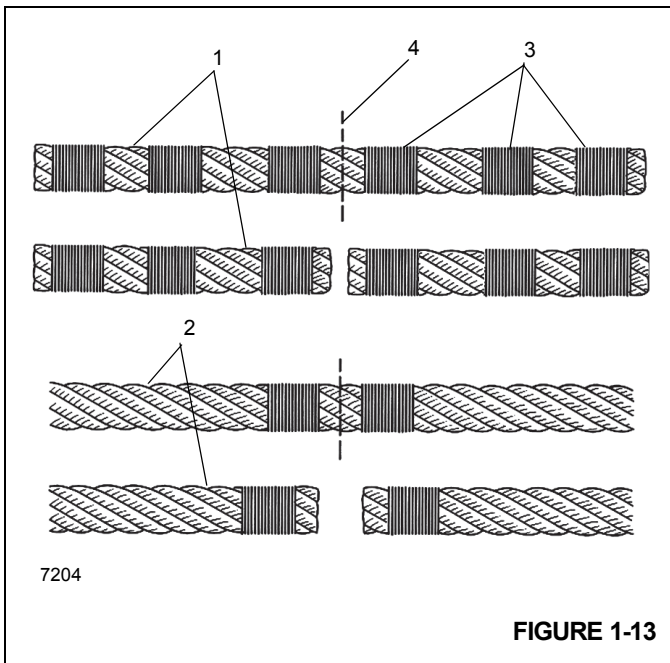

FIGURE 1-13
**NOTE:** Non-preformed wire rope (1) (Figure 1-13) should have three seizings (3) located on each side of the cut (4) as compared to preformed wire rope (2).